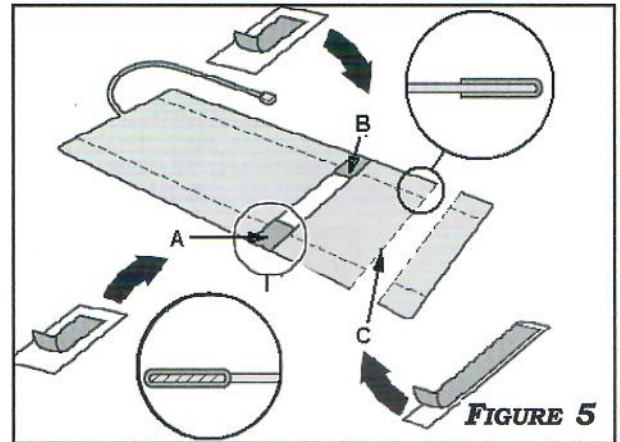

FIGURE 5
5. USING THE SUPPLIED FELT OR MYLAR TAPE, WRAP EDGES **A** AND **B** OF THE CUT OUT WINDOW AS SHOWN IN **FIGURE 5**.
6. USING THE SUPPLIED 2" STRIPS OF FELT OR MYLAR TAPE, WRAP THE CUT EDGE **C** AS SHOWN. SEE **FIGURE 5**.